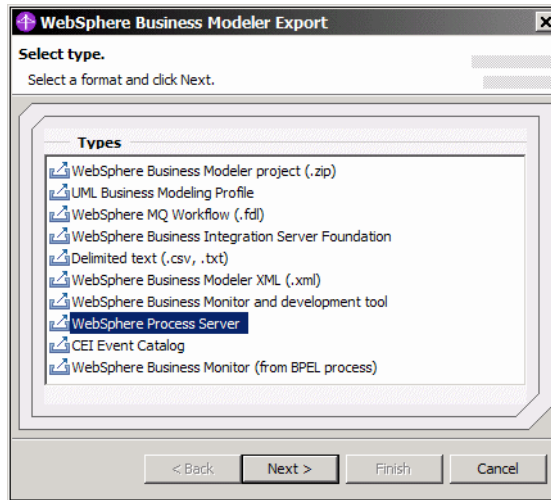

Figure 6-36 WebSphere Process Server export
- ▶ Then, select the type of export as *WebSphere Process Server* export (Figure 6-36).